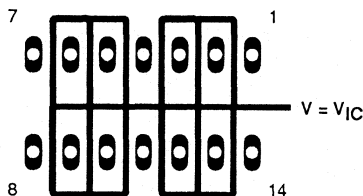
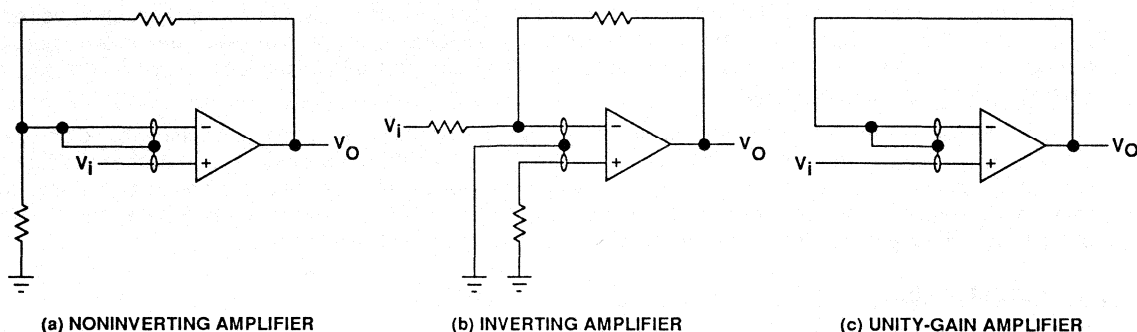

Figure 33. Isolation Metal Around Device Inputs
Figure 37. Guard Ring Schemes
1. Isolate the device from other potential leakage sources. Use a grounded shield around and between the device inputs (see Figure 33). Leakages that would otherwise flow to the inputs will be shunted away.
Because of the extremely high input impedance and resulting low-bias current requirements, the TLV2334I is well suited for low-level signal processing; however, leakage currents on printed circuit boards and sockets can easily exceed bias-current requirements and cause a degradation in device performance. It is good practice to include guard rings around inputs (similar to those of Figure 33 in the Parameter Measurement Information section). These guards should be driven from a low-impedance source at the same voltage level as the common-mode input (see Figure 37).